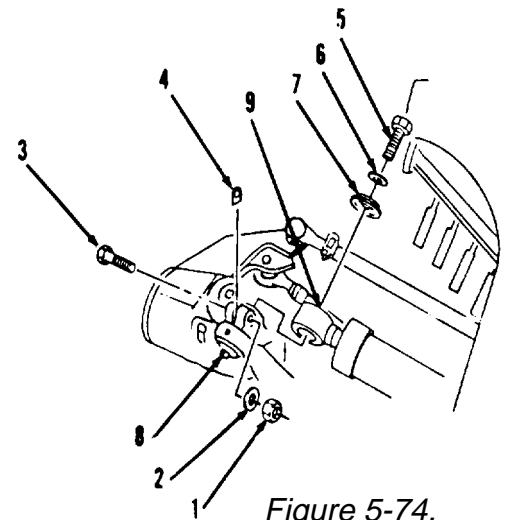

Figure 5-74.
26. Operate wheel lean control lever to position rod assembly (9) in line with pin (8, Figure 5-74) on right front of vehicle.
29. Position pin (8) through eye of rod assembly (9) on right front of vehicle.
30. Install retainer (7), washer (6) and bolt (5).
31. Install lock (4), bolt (3), washer (2) and nut (1). Tighten nut (1) to 185 ft-lb torque.